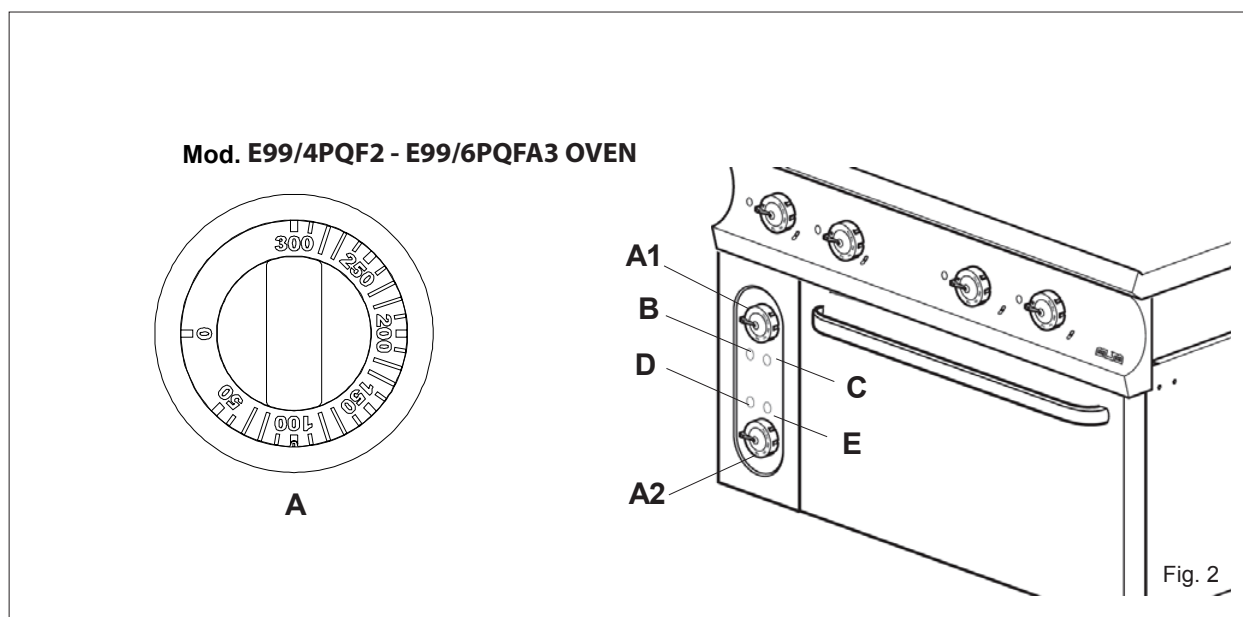

Fig. 2
- Turn the knob (Pos. A1 and A2 - Fig. 2) clockwise and set the desired temperature.
- When the orange pilot lights (Pos. C and E - Fig. 2) are turned on, they indicate that the thermostat of the lower and upper resistances is in operation and that oven requires heat; when the cooking chamber reaches the desired temperature that corresponds to the one set by the knob (Pos. A - Fig. 2) the orange pilot light is turned off and food can be inserted in the oven to be cooked.